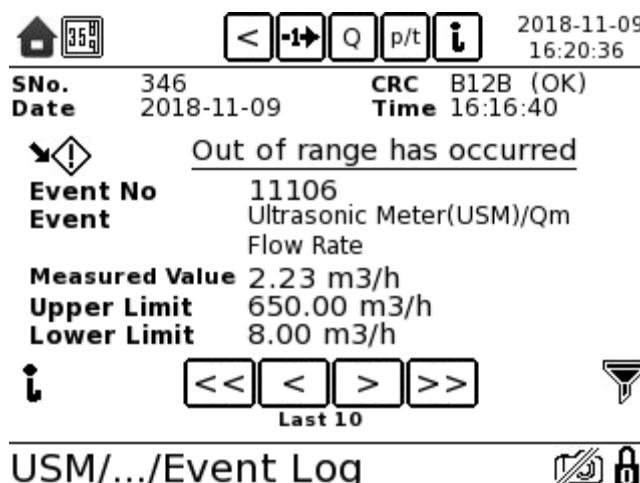

Fig. 43 USM event log
- Tap on the required log in the following log overview (Fig. 43)
In the example shown in Fig. 43, an event is logged due to the operating flow at the USM being beyond the displayed limits at the displayed time.